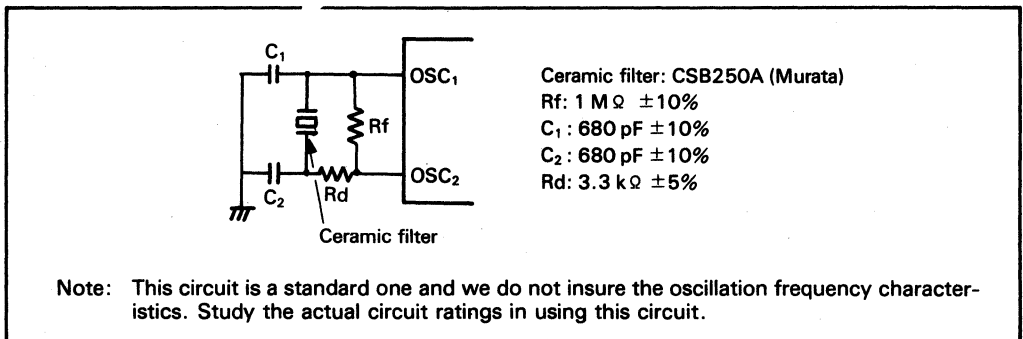

Figure 46 Internal Oscillator, Ceramic Filter
9. Internal oscillator operation using a ceramic filter (figure 46).